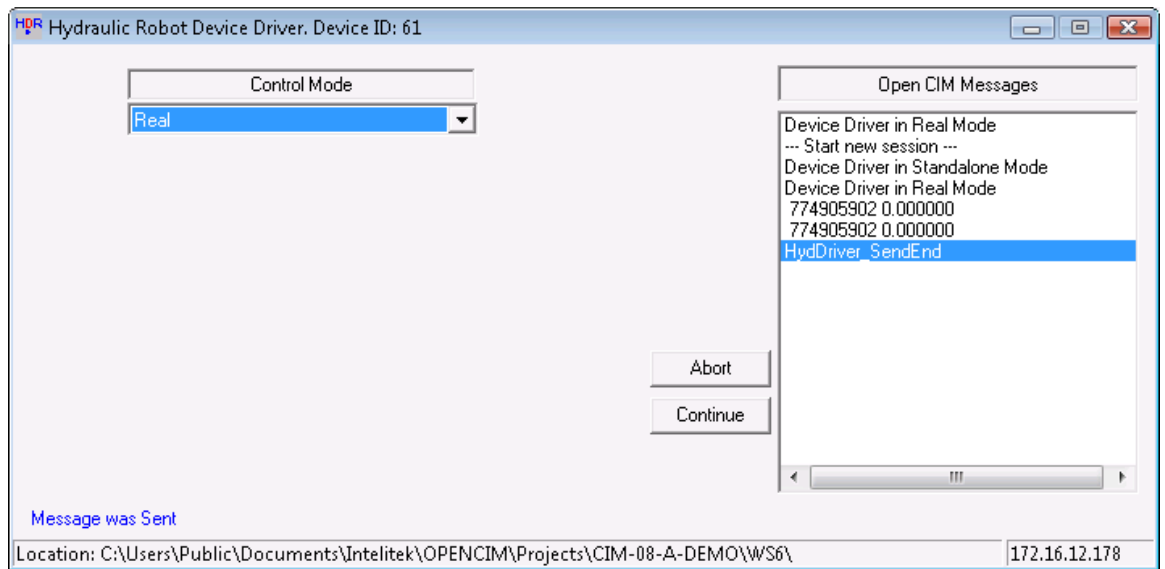

Figure 156: Hydraulic Robot Device Driver
3. From the windows system tray select **Hydraulic Robot Device Driver**. The Hydraulic Robot Device Driver window is displayed, as shown in Figure 156: Hydraulic Robot Device Driver.